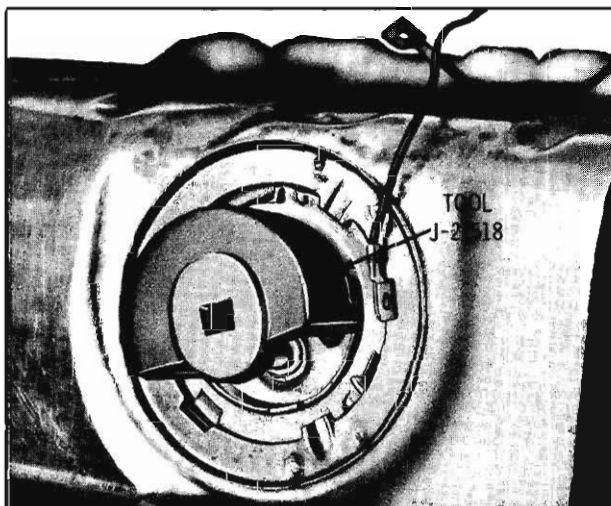

Fig. 3-477 Removing Fuel Gauge
2. Remove fuel gauge retainer using Tool J-21518. (Fig. 3-477)